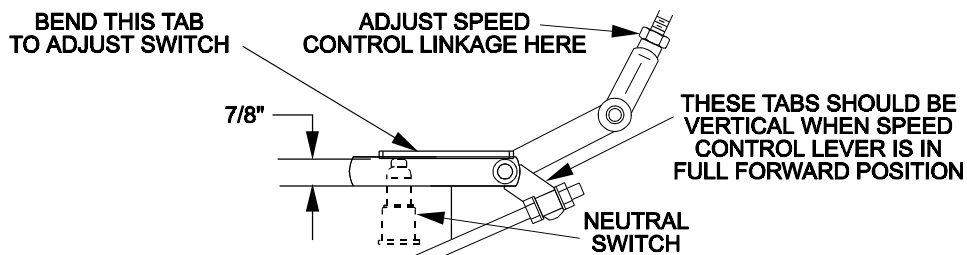

FIG. 8
2. Move speed control lever (located on console) to the full forward position and check orientation of tabs on the ends of the speed control crank (fig. 8). These tabs should be pointing straight down at the 6 o'clock position or slightly forward. Adjust threaded yoke at the bottom of speed control linkage (fig. 8) until tabs are positioned correctly.
3. Pull speed control lever back to neutral. Check that the dimension between the bottom forward tip of neutral switch actuating tab (located at the left hand rear corner of fuel tank) and the top of the fuel tank support is 7/8" (fig. 8). If it is not, bend tab on speed control crank to attain 7/8" dimension.